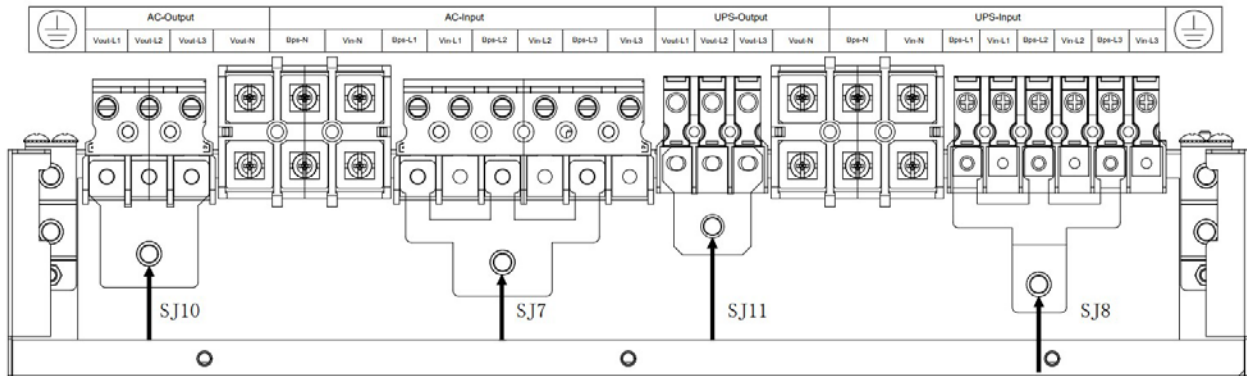

Figure 84: MBS Wiring Connections for a Single-phase In and Single-Phase Out System (5-10kVA EU UPS units only) [Jumpers = SJ7, SJ8, SJ10, SJ11]
- vi. Connect each wire under the appropriate screw as indicated on the back of the MBS (see Figure 84 below). **Note:** Only the Bypass terminals on the MBS will be used for this connection. The mains terminals on the MBS will not be used in this configuration. Each part of the system must maintain a connected earth ground.
- vi. Connect each wire under the appropriate screw as indicated on the back of the MBS (see Figure 84 below). **Note:** Each part of the system must maintain a connected earth ground.